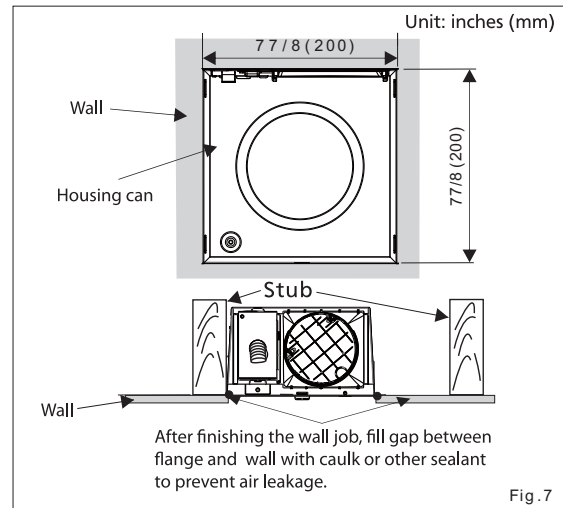

Fig. 7
10. Finish wall work. Wall hole should be aligned with the inside edge of the flange. (Fig.7)
7. Finish the wall work. Ceiling hole should be aligned with the inside edge of the flange. (Fig. 7)